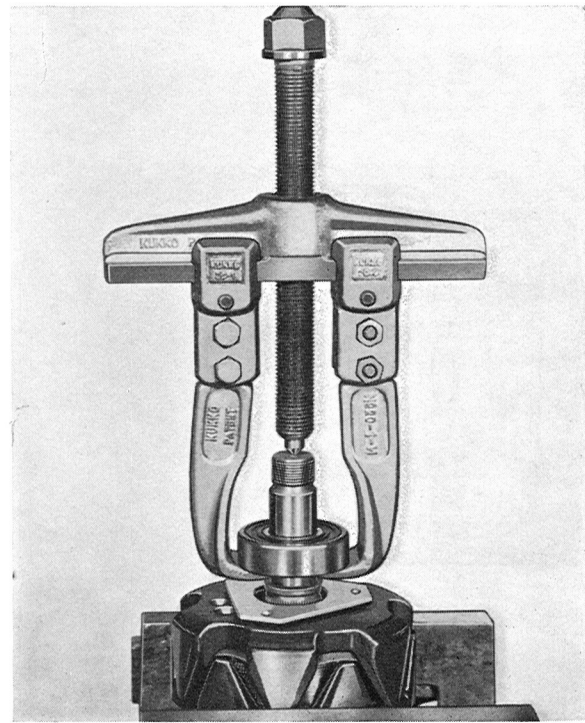

Fig. 3-16. Bearing removal
2. Pull the bearings off with a claw puller, see Fig. 3-16.